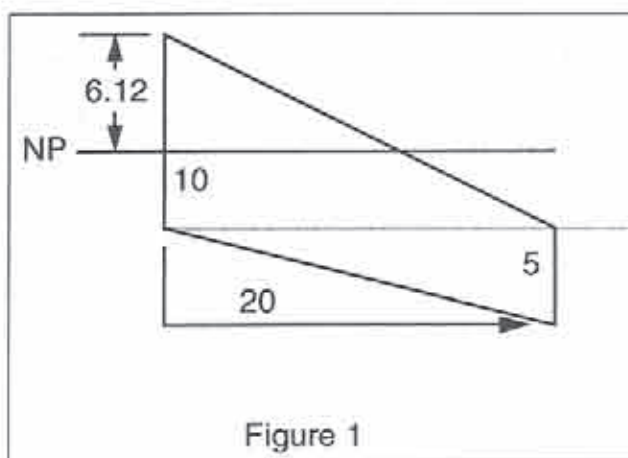

Figure 1
Figure 1 depicts the original swept wing configuration. For simplicity, we chose a swept wing with a chord of ten units and a tip chord of five units. The leading edge is swept back ten units, and the half-span is 20 units. To determine the neutral point, we used a method described by Richard Moran in the March 1994 issue of *R/C Soaring Digest*. Using this method, the neutral point is found to be at 6.12 units from the apex of the leading edge. (Remember, the center of gravity (CG) is always placed in front of this point.)
When cutting to the true leading edge, you've got another problem. The tangent to the surface at the true leading edge is vertical. For most template setups, you just can't do this. You wind up having an abrupt change in direction on the entry for the template and this will often hang up the wire and cause uneven burning at the L.E. The way around this that works best for me is to make what I call a tangent entry (and exit) in the first 0.125" to 0.25" of the core at the leading edge (more on this in just a bit). Then finishing off the leading edge with a sanding 'T' to match the contour of a leading edge template (Figure 1).